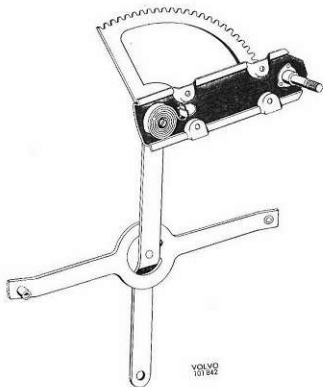

Fig. 8-21. Winding mechanism
6. Remove the attaching screws for the window winder, and remove it from the door, see Fig. 8-21.